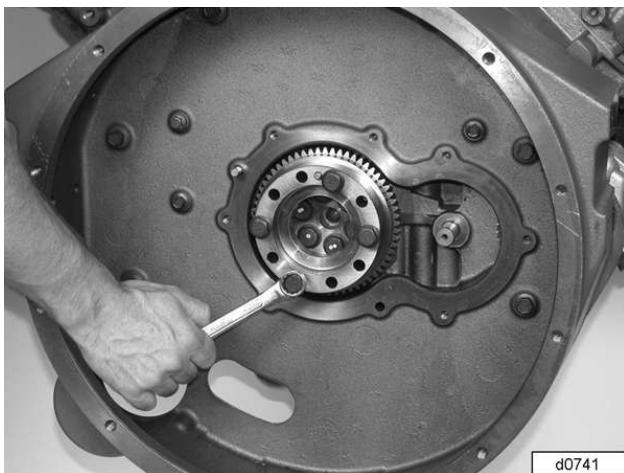

Figure 32 Install Secondary Flange
34. Install the secondary flange (Figure 32) by aligning the dowel pin hole with the crankshaft dowel pin. Install four old flexplate or flywheel mounting bolts with at least a 3/4 inch spacer evenly spaced around the flange. Pull the flange in place by tightening alternating bolts. Remove bolts and spacers after flange has been seated.